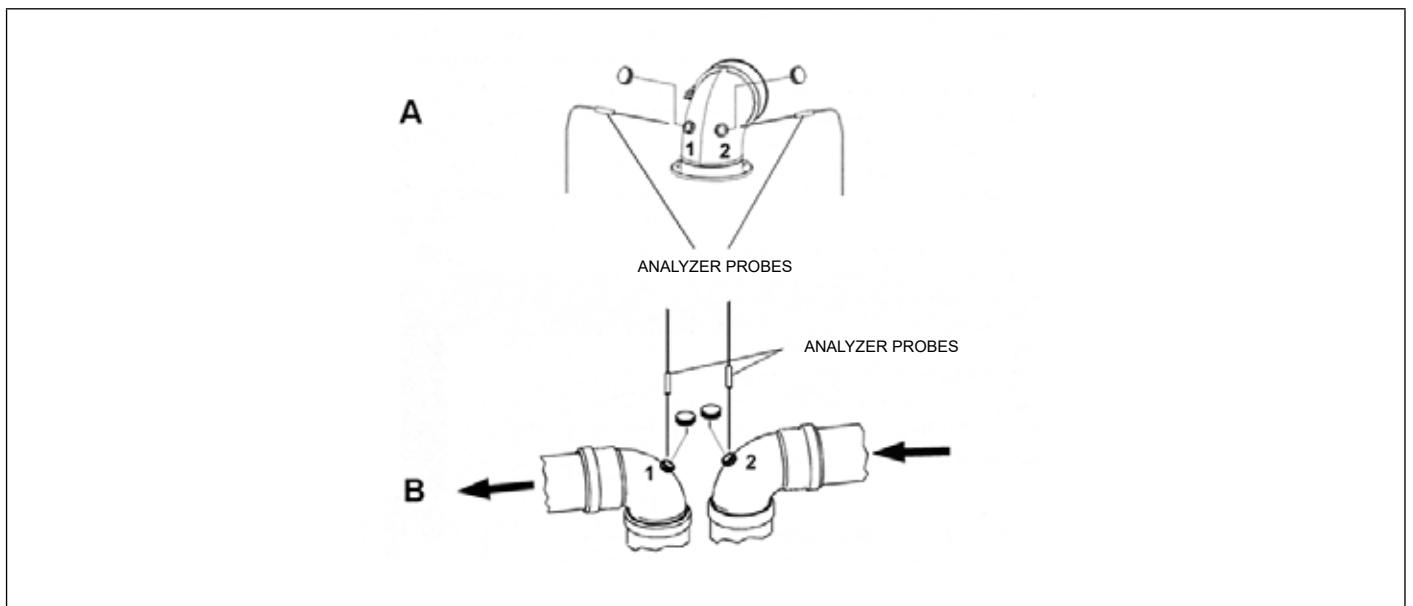

Fig. 22 Examples of flue gas testing points
- assess combustion air from opening 2 (see ref. **A** Fig. 22 Examples of flue gas testing points).
- assess flue gas temperature and CO₂ from no. 1 opening (see **B** ref. **A** Fig. 22 Examples of flue gas testing points).
- assess combustion air from opening 2 (see ref. **B** Fig. 22 Examples of flue gas testing points).
- assess flue gas temperature and CO₂ from no. 1 opening (see **B** ref. **B** Fig. 22 Examples of flue gas testing points).